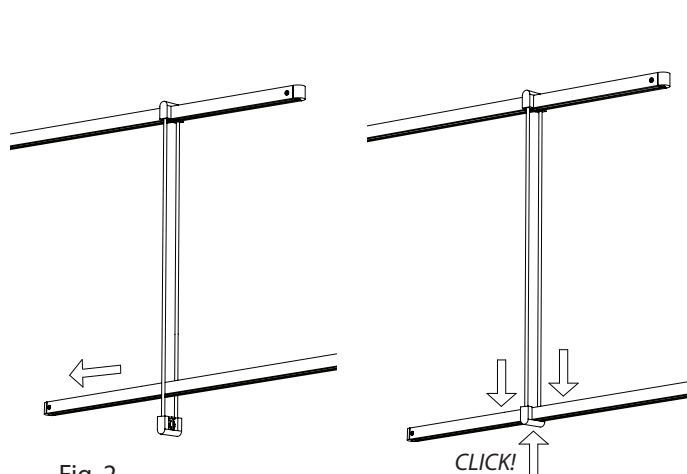

Fig. 2
3. Pass a second Power Bar between the rods of the Power Bar Hanger. (Fig. 2)
4. Press down firmly on the top of the Power Bar, while pressing up on the bottom of the Power Bar Hanger, until the Power Bar clicks into place. (Fig. 2)